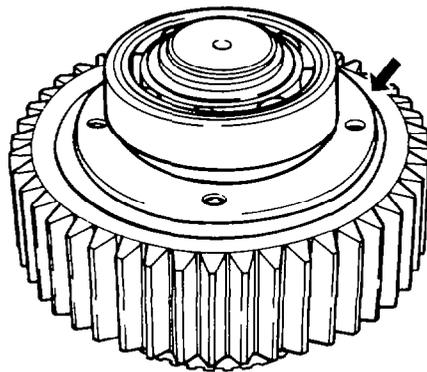

Figure 50 Bearing Ring
- j. Remove the ball bearing from the half-shaft gear; remove the retaining circlip and remove the spacer ring and bearing from the shaft of the hub gear; remove the bearing ring (see Fig 50).